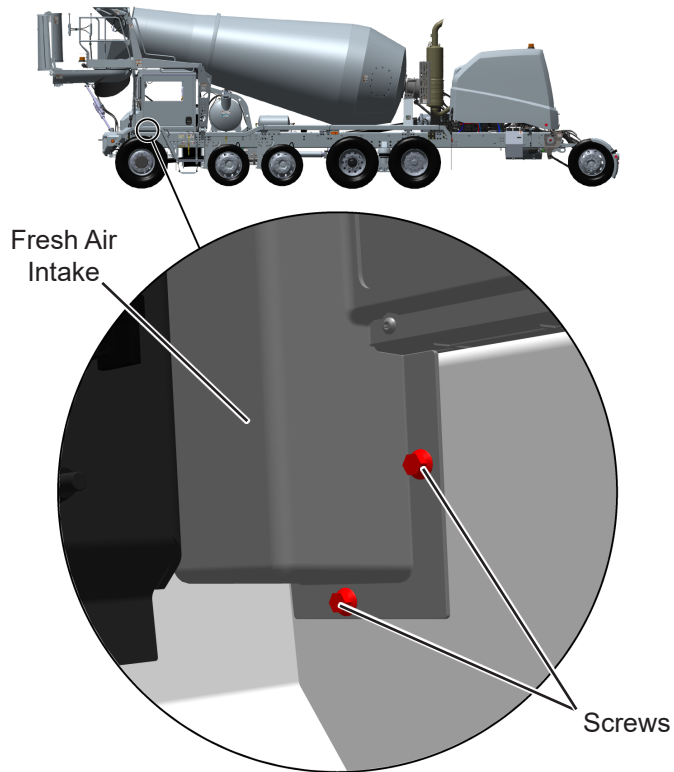

Figure 4. HVAC Fresh Air Intake
5. Remove the two screws securing HVAC fresh air intake inside front right-hand bottom corner of cab. See Figure 4. One of the two screws will not be reused.